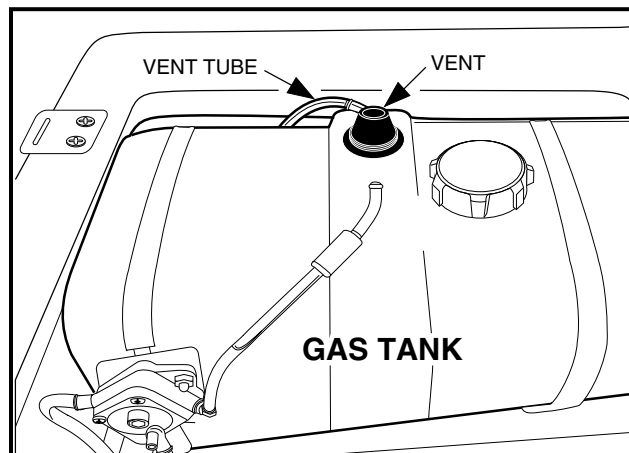

FIGURE 27
\*See Figure 27 below.
- **IF THE VEHICLE HAS AN ALL-WEATHER ENCLOSURE INSTALLED, THE GAS TANK MUST BE PROPERLY VENTED AS SHOWN (FIGURE 27, PAGE 43).**